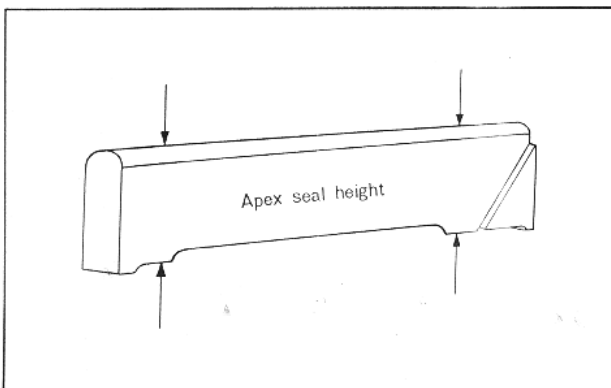

Fig. 1-46 Apex seal height
3. Measure the height of the apex seal with a micrometer at two positions shown in Fig. 1-46. Replace if the height is less than 7.0 mm (0.275 in).